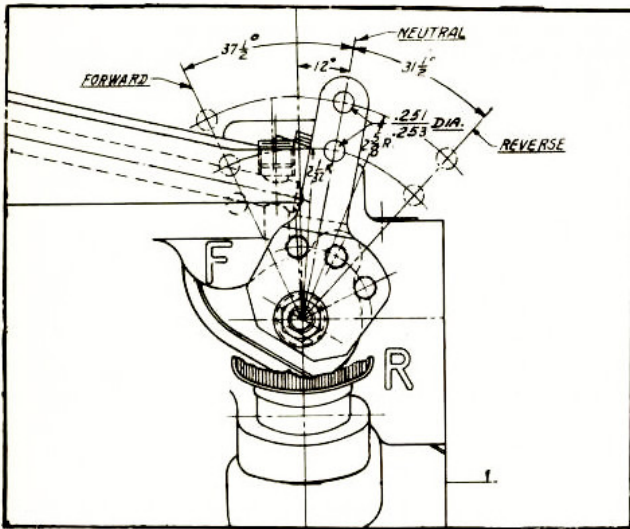

Fig. 103 ASI-72 Shift Lever Positions
6. For assembly of shift lever see page 37, (paragraph 79). The assembly procedure is the same for the Model 72 Transmissions as that described and illustrated for the Model 72C. Although the present shift lever (71-79B), (Fig. 12), can be substituted for the lever shown in (Fig. 103), it would change the travel of the control linkage for shifts between "Neutral" and "Forward" positions, see (Fig. 12) and (Fig. 103).